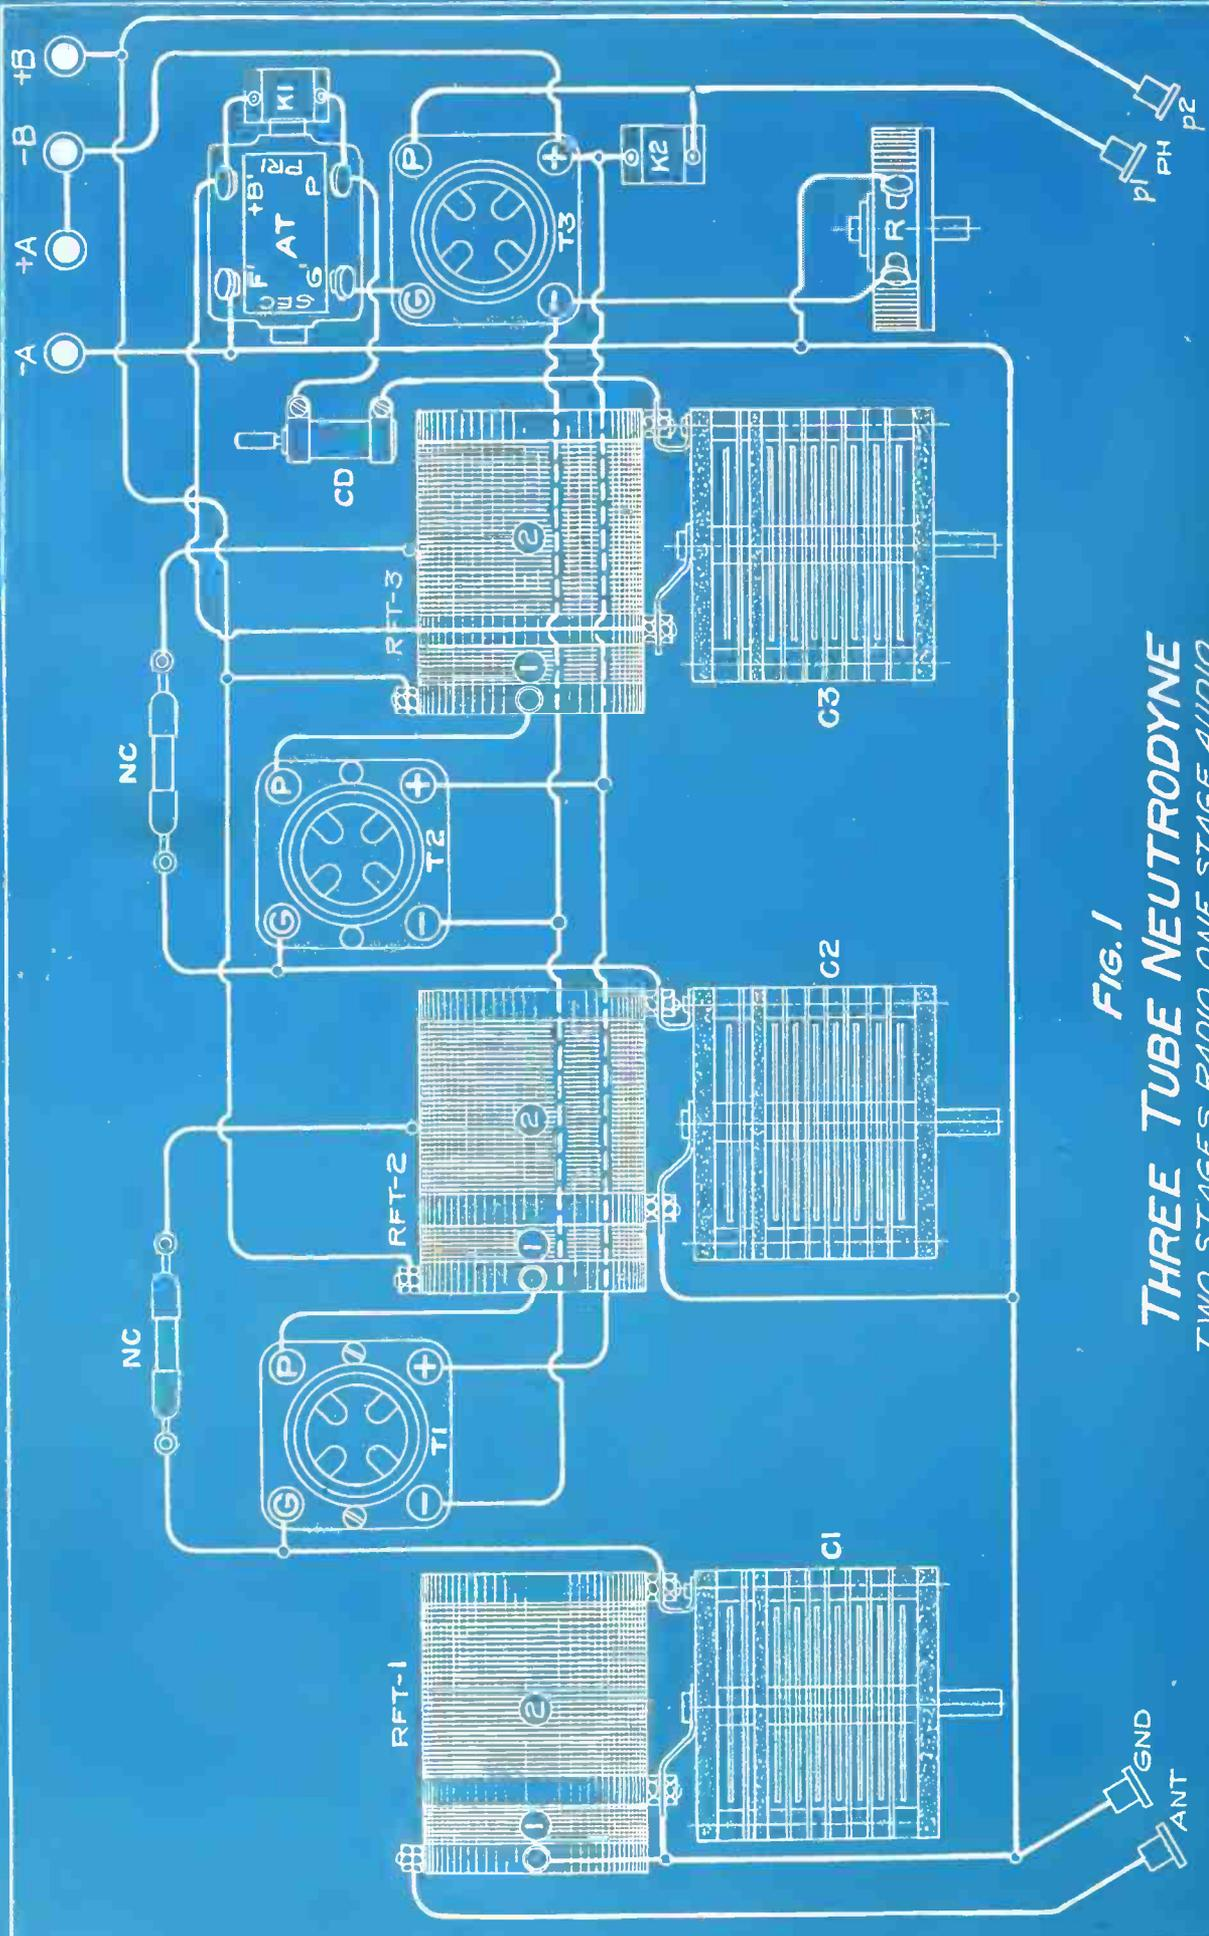

FIG. 1
Fig. 1 is a picture diagram of the three tube neutrodyne, where it will be seen that we have two radio frequency stages, a crystal detector, and one audio stage. This will insure very good distance reception and loud speaker volume on all but the more distant stations. The crystal avoids the noises of the detector tube, thus giving a very pure natural tone that is unapproached by the standard five tube set. Further, when properly adjusted it will not squeal nor howl under any tuning conditions.
In Fig. 1 the two radio frequency tubes are at (T1) and (T2), the crystal detector is at (CD), and the audio tube at (T3). All tube filaments are controlled by the single rheostat (R), the resistance of which depends upon the type of tubes used, and as this carries the current for all tubes the resistance must be somewhat lower than when a single rheostat is used for each tube. It must be borne in mind that all of the tubes are amplifiers such as the UV-201A, C-301A, UV-199 or C-299 and that soft detector tubes will not give the necessary amplification.
FIG. 1 shows the simplicity of this circuit where the only tuning control is the variable condenser (C1). This is a 23 plate (0.0005 mf) vernier condenser of the standard type. The fixed coupler (L1-L2) not only acts as a tuning inductance but also as a radio frequency transformer in which the coil (L1) is the primary and coil (L2) is the secondary. Here we have a part which performs two distinct functions in the circuit and saves us from \$3.00 to \$5.00 in the construction of the set. The fixed coupler is attached to the variable condenser (C1)
by means of the sheet brass brackets (7) and (8). For those used to reading electrical diagrams, the functioning of the circuit is clearly shown by the conventional diagram of Fig. 2, and as both Figs. 1 and 2 have the same lettering, the relation is easily followed.
Fig. 3 is an isometric view of the assembly showing the relative arrangement of the parts when viewed from the rear of the panel. All parts are lettered and numbered to correspond with the lettering and numbering of the parts and wires in the two diagrams. As several of the wires are concealed in the isometric view, it is a good plan to use the diagram in Fig. 1 when making the actual connections and in laying out the wiring.